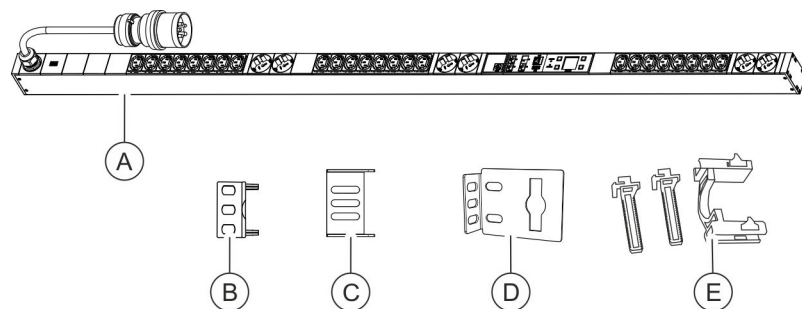

Fig. 14: Scope of delivery
- PDU (Fig. 14/A)
- Two plug-in brackets for mounting the PDU via the back (Fig. 14/B)
- Two plug-in brackets for mounting the PDU via the sides (Fig. 14/C)
- Two mounting brackets (Fig. 14/D)
- Two sets of non-heating appliance locking devices (C13/C19) (Fig. 14/E)